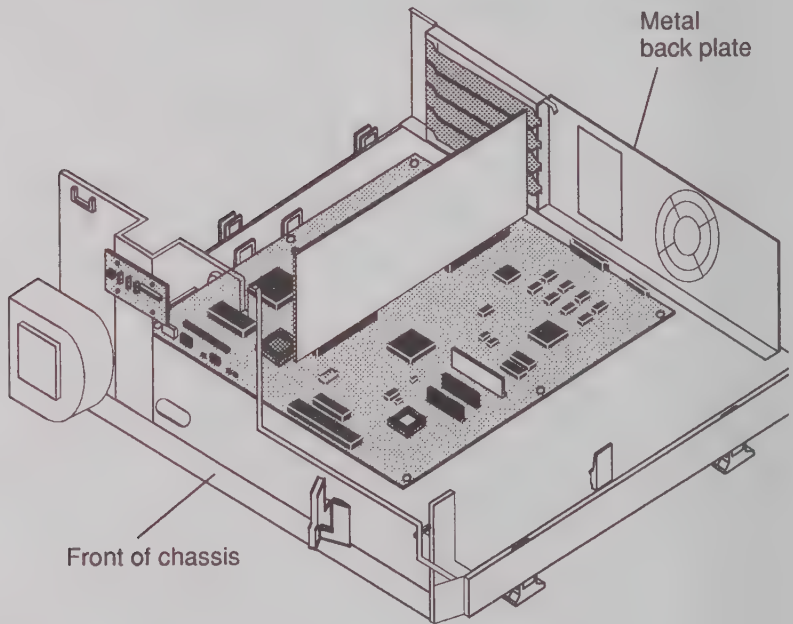

Figure 10 Removing the Metal Back Plate
5. Remove the metal back plate by lifting it straight up. See Figure 10.